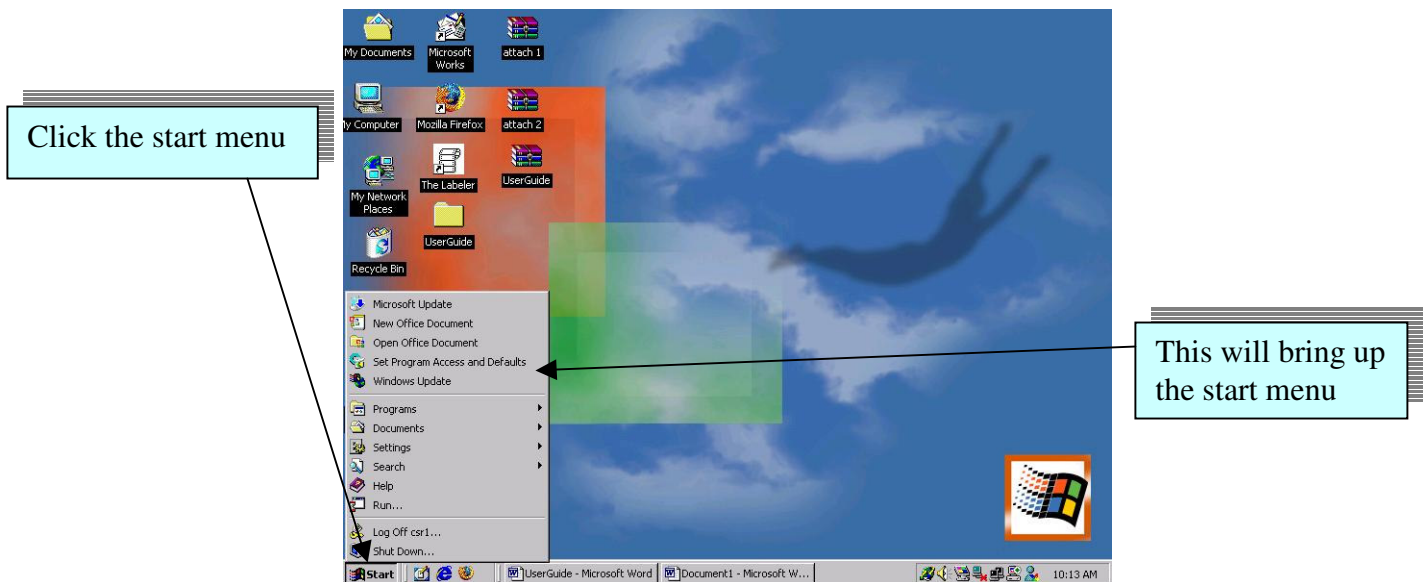

Figure 6.1.1.1.1: Start Menu
1. Click on the start menu at the bottom left of the screen (see Figure 6.1.1.1.1).
2. Click on the run command (see Figure 6.1.1.1.2).